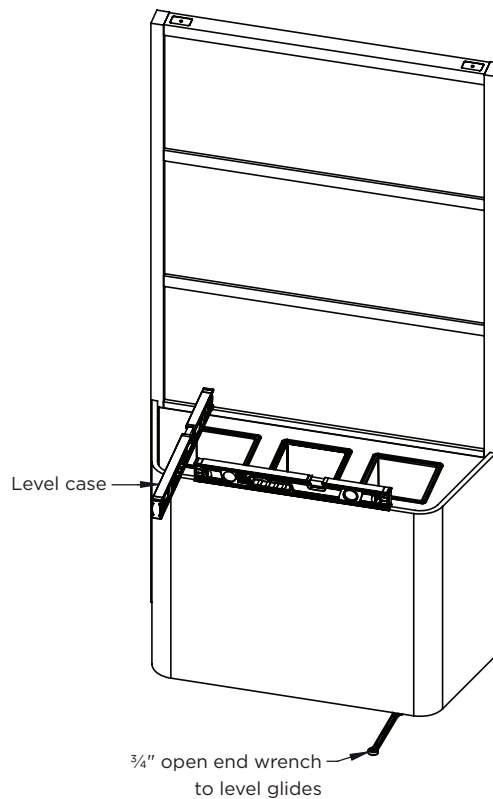

Figure 5A
1. Start with the middle unit in the ganging series. Position in the final install location and level unit with the glides. A  $\frac{3}{4}$ " open end wrench can be used to adjust the glide. (**Figure 5A**)